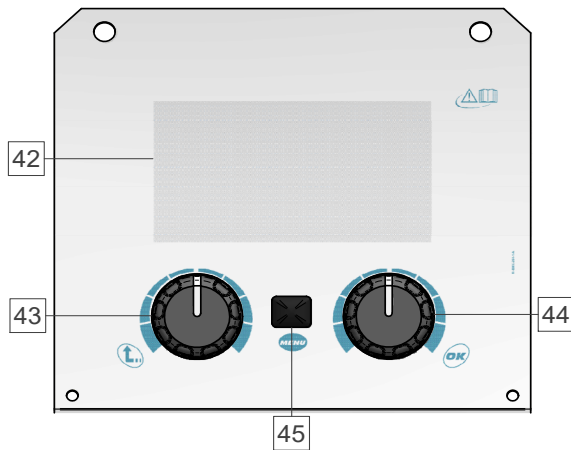

Figure 8
- PRO view (Figure 8)
- Select one of the view (Basic – Figure 7 or PRO– Figure 8).